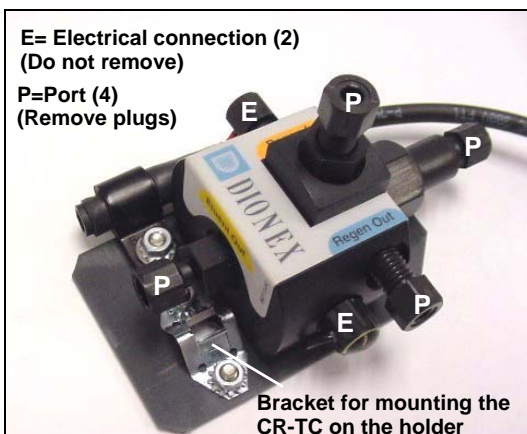

Figure 33. CR-TC
2. Before installing the CR-TC, note the metal ball stud inside the bottom of the cartridge holder (see Figure 32) and the bracket on the CR-TC mounting plate (see Figure 33). These are used to mount the CR-TC inside the holder after it is plumbed.
3. Remove the plugs from the four ports, labeled “P” in Figure 33. **Do not remove the two electrical connections, labeled “E” in the figure.**